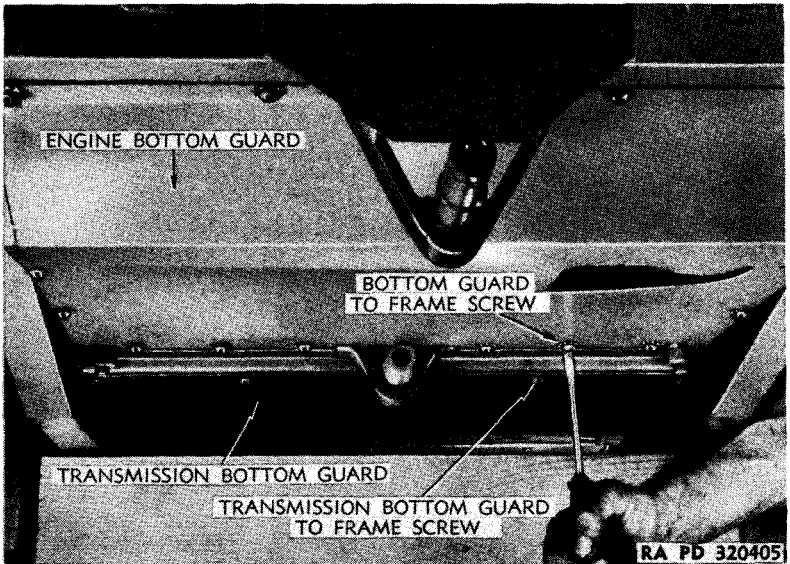

Figure 104—Removing Screw from Engine Bottom Guard
h. **Replacement of Engine and Transmission Guards.** Remove screws holding guards to tractor frame and frame cross member (fig. 104). Reverse removal procedure to install.